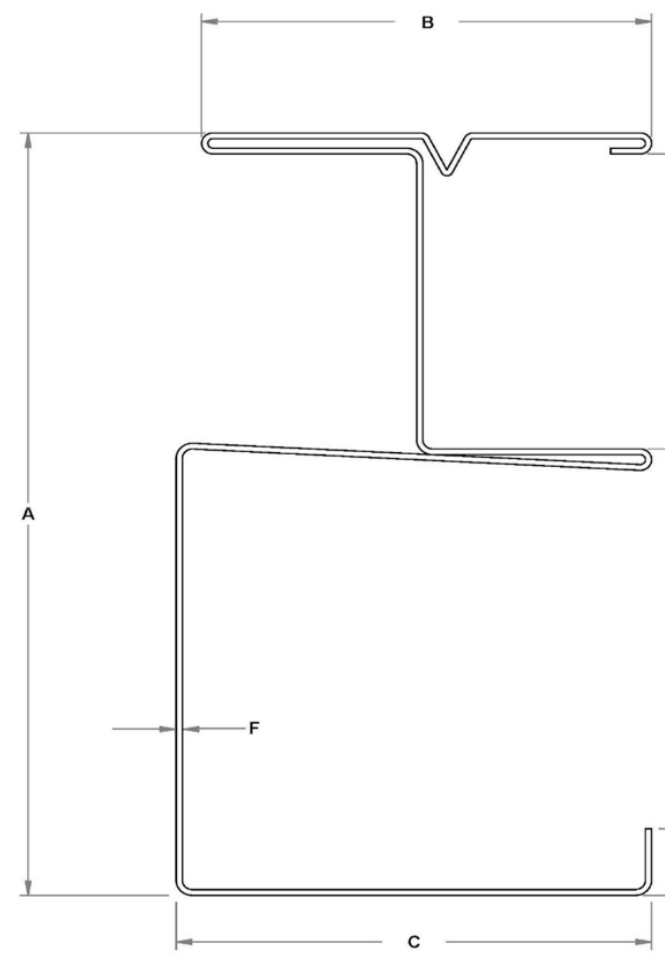

Figure 7 - Nominal C-H Stud Dimension Locations (See Table 1 for Values)
C-H Studs: Based on stud size shown in Table 1 and Figure 7 of this **AER**.
1. Refer to Figure 7 for location of tabulated dimensions.